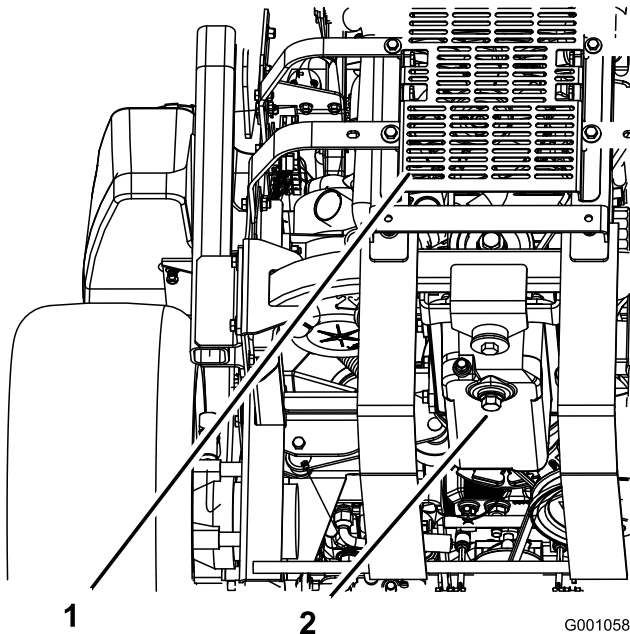

Figure 43
5. Place a pan below the oil drain. Remove the drain plug and let the oil drain completely (Figure 43).